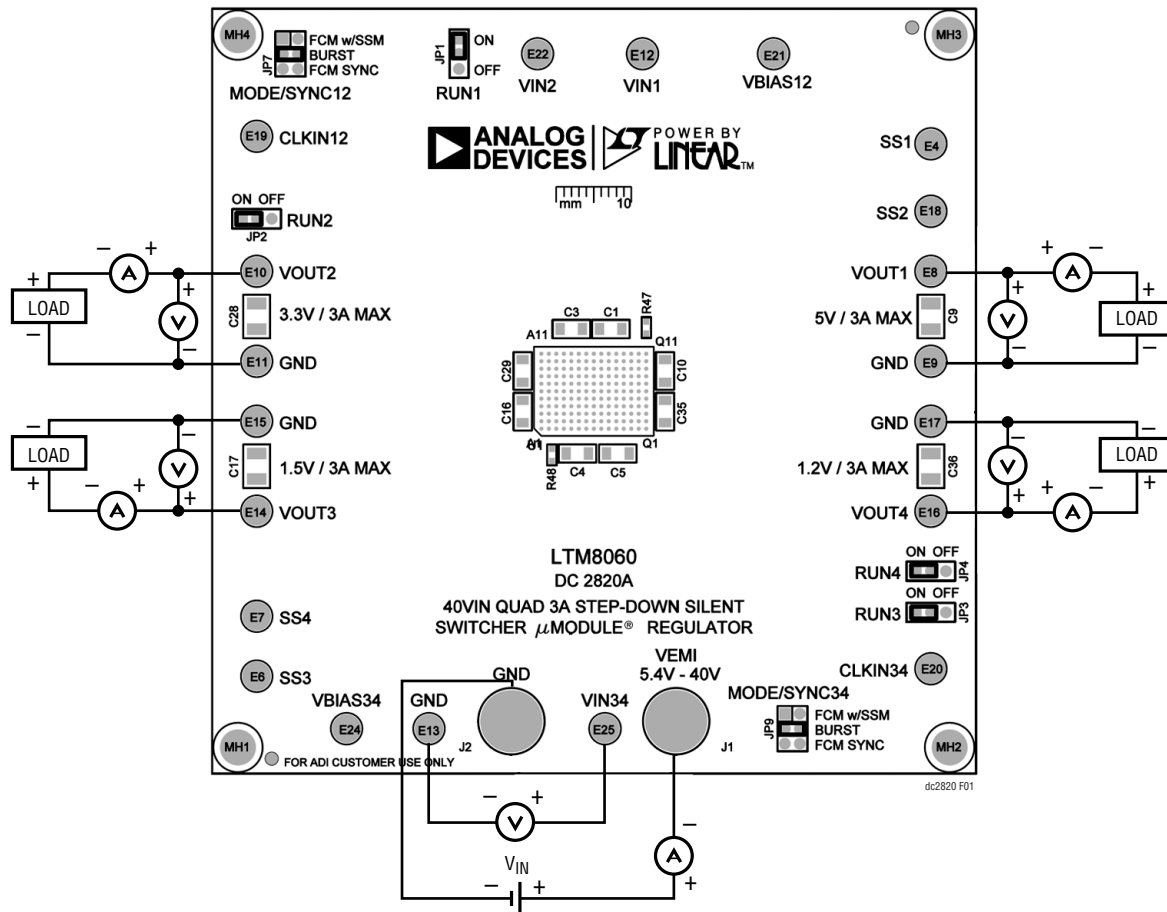

Figure 1. Test Setup of DC2820A
Demonstration circuit 2820A provides an easy way to evaluate the performance of the LTM8060. Please refer to Figure 1 for test setup connections and follow the procedure below.
3. With power off, connect the loads, input voltage supply and meters as shown in Figure 1.